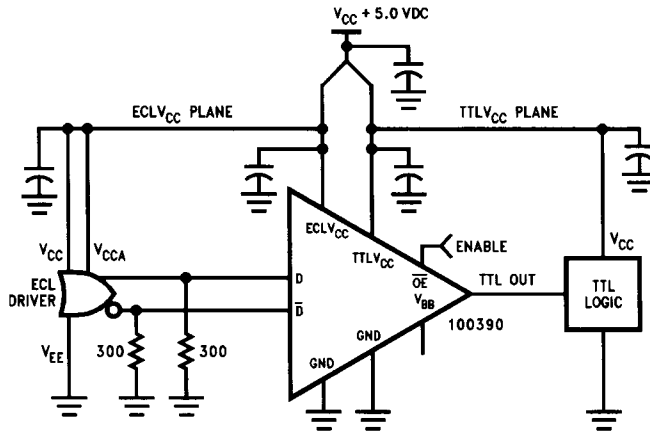

FIGURE 4
1. Device performance will be enhanced by the use of dual VCC power planes as illustrated in the Application Figures 4 and 5. This will minimize the coupling of TTL switching noise into the primary reference to the ECL circuitry and take full advantage of the 100390's on chip VCC partitioning.
6. Figure 4 illustrates typical differential input operation.